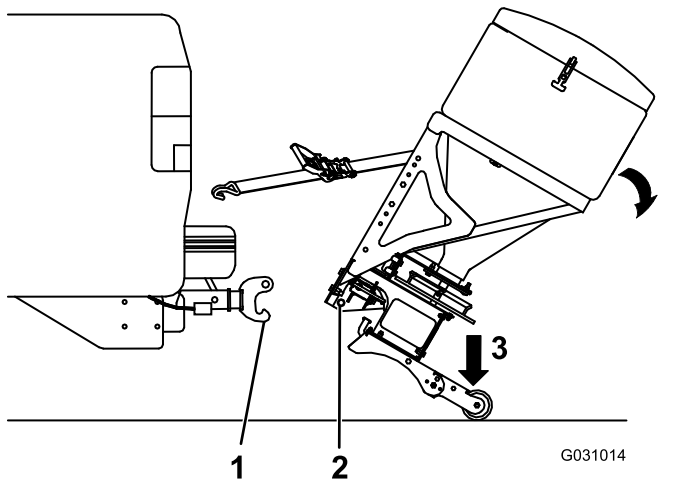

Figure 13
5. Grip the spreader firmly and step on the leg assembly to rotate it back until the bottom pin of the RT3 attachment clears the hook on the RT3 hitch (Figure 13).